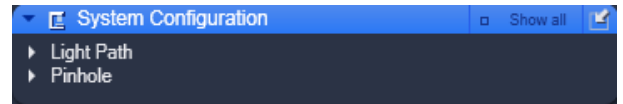

Fig. 9-19 The System Configuration tool box
- Click on the tab **System Configuration** to activate the panel (Fig. 9-19). Click on any other tab to leave the panel. You have two options: